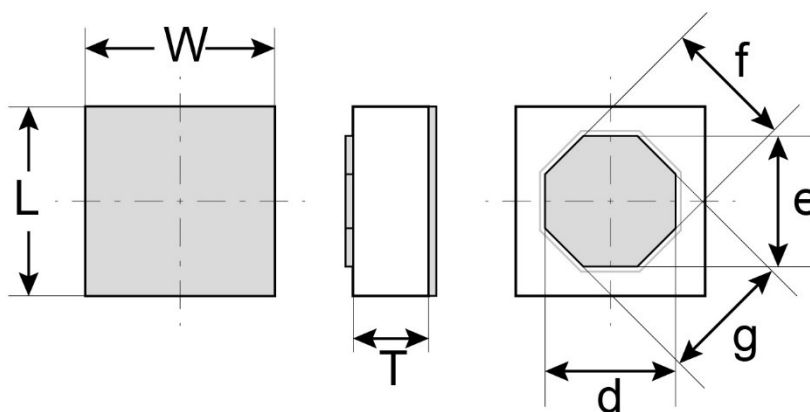

Figure 9 - Package outline drawing
- (1) Other film frame carrier are possible on request
- (2) Au = TiWAu (0.3µm) / Au (3µm)
- (3) Refer to Figure 9